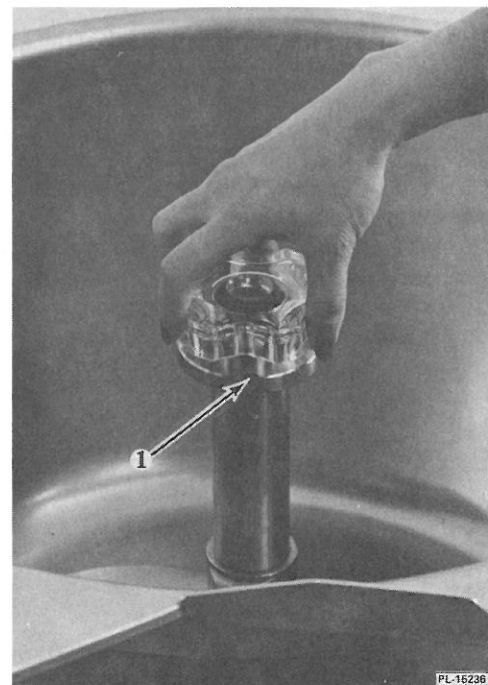

Fig. 7
4. Cut/Mix Shaft Assembly: Place the cut/mix shaft assembly on the motor shaft. Seat the square drive at the base. Place the clear plastic knob into the cut/mix shaft and align slots (1, Fig. 7). Seat the knob on the top of the shaft and turn either direction until tight.